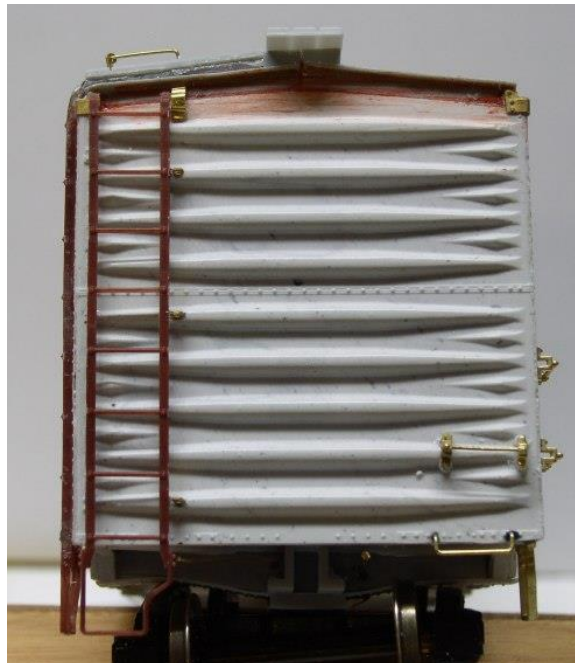

Figure E2
2. In the B end (Brake Wheel End) drill 0.020" holes in the bottom rib, the rib just below the rivet seam and in the rib second from the top 2" away from the right ladder stile. Hold the eyelets in a pair of pliers and grind off the protrusion that allows the eyelet to stand away from a surface. You need to make the eye sit flush with the surface of the rib. When done, glue the eyelets in place. This will form the brackets for the Brake Retainer valve line. As an aside early CNR 40' 10' IH boxcars and reefers had straight retainer lines. The US roads had them angled. See Figure E2
3. Use a scrap piece of brass to form a small 'U' 3" x 5" x and about 2" tall so that it sits level with the ribs. (You can also use a scrap piece of plastic.) Glue it in place right in line with the eyelets for the retainer valve. See the top right side of the ladder in Figure E2.